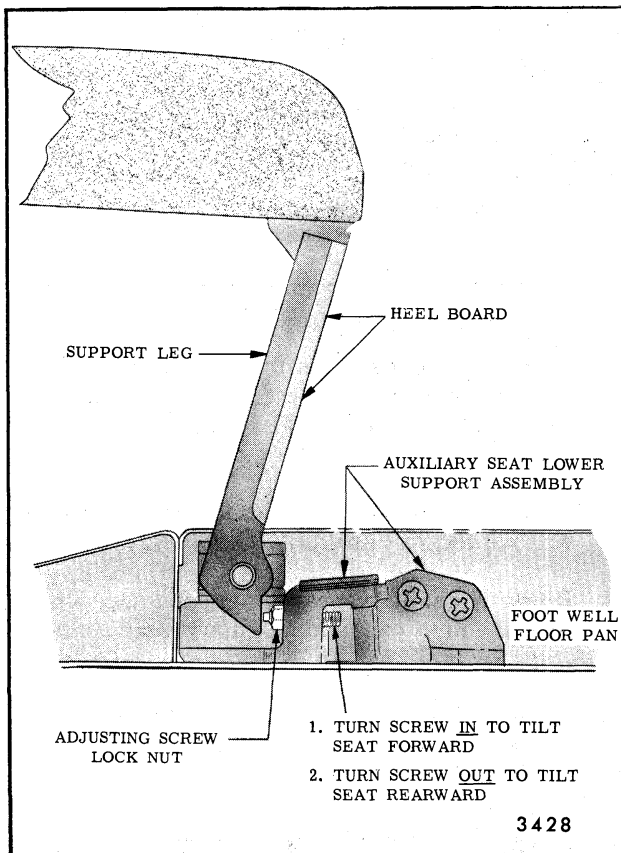

Fig. 9-73-Auxiliary Seat Adjustment - Cadillac Limousine
2. On the front side of the auxiliary seat heel board, turn back foot well carpet flap to expose the auxiliary seat lower outboard and inboard support assemblies (Fig. 9-73).
3. Loosen the hex head adjusting screw lock nut at both inboard and outboard support (see Fig. 9-73).
4. Carefully turn the adjusting screw (see Fig. 9-73) at both supports the SAME AMOUNT to allow the seat to pivot rearward further, thereby, providing additional leg room for the auxiliary seat passenger. Tighten the adjusting screw lock nut at both supports.